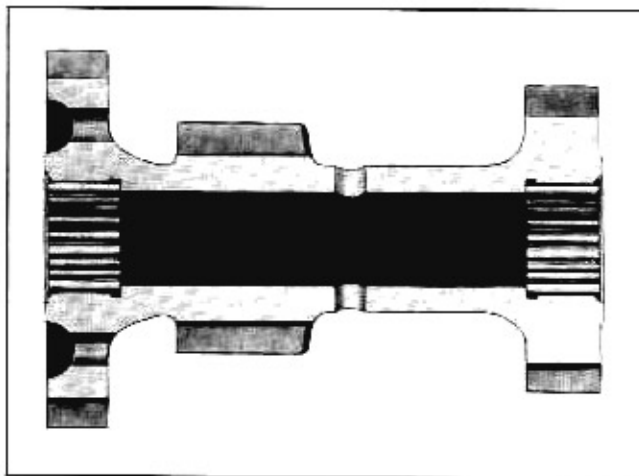

Fig. 7-33 Counter gear Needle Bearings Installed
1. Place some cup grease in the needle bearing area of each end of the counter gear and install the 25 needle bearings in each end. The grease will hold the needle bearings in place while installing (Fig. 7-33).